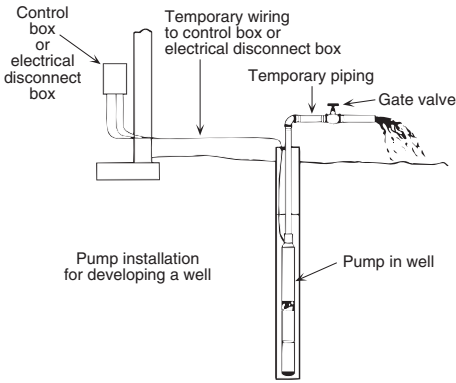

Figure 10 - Typical pump start-up
1. Connect a pipe elbow, a short length of pipe and a gate valve to pump discharge at well head (see Figure 10).
5. Set gate valve on discharge 1/3 open; start pump (see Figure 10).